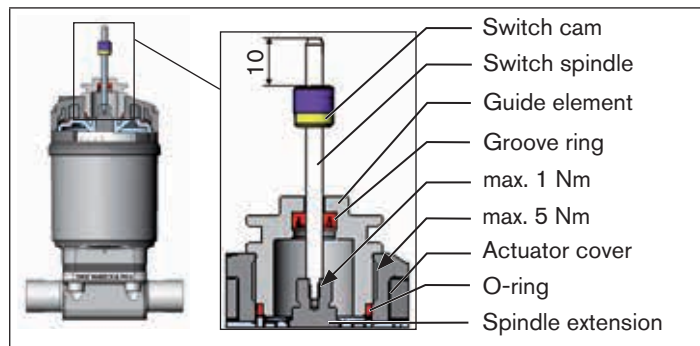

Fig. 7: Installation of switch spindle (2), 21xx series
- Position the switch cam on the switch spindle so that the distance between the switch cam and top of the spindle is 10 mm (see “Fig. 7”)